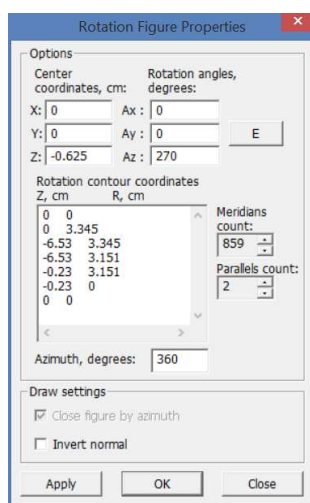

Figure 53.2
7.3 Add the element 'reflector'. To do this in the right pane click the button **New Element** and enter the name 'Reflector'. Next, choose from the list the type of surface **Rotation figure**. In the dialog window **Rotation figure parameters** enter the data for the construction as shown in Figure 53.2 [Section 3.2].